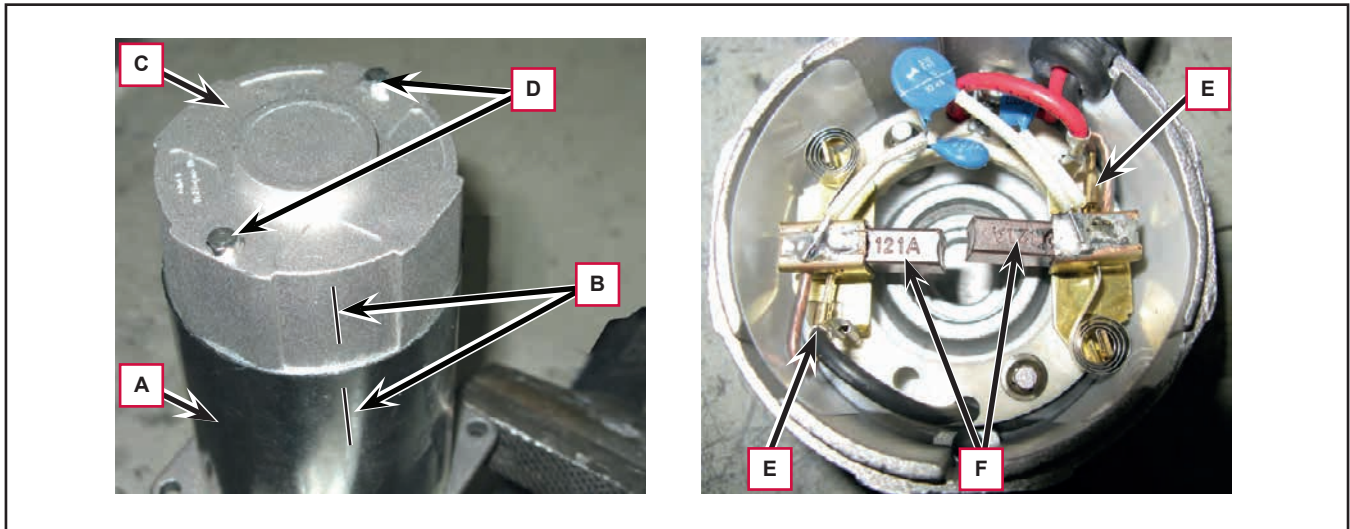

Figure 9
2. Take the motor (A, Fig. 9) to the workbench and, if necessary, mark the position (B) of the cap (C) as to the motor body (for proper reassembly).
3. Remove the screws (D).
4. Carefully remove the cap (C) by disengaging the carbon brushes inside the motor armature.
5. Inside the cap, disconnect the connections (E) and remove the carbon brushes with wiring harness (F).
6. Check the two carbon brushes (F) for wear. Replace the carbon brushes when: the contact with the motor armature is insufficient, the carbon brushes are worn, the carbon brush contact surface is not integral, the thrust spring is broken, etc. If the length of the carbon brushes is insufficient, these must be replaced.